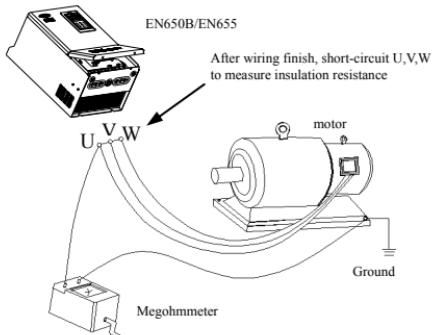

Fig.1-1 Motor insulation check
(1) EN650B/EN655 series inverter belong to voltage type inverter, and it is normal with up temperature, noise and vibration of motor increasing over power frequency run slightly.
(2) It is required to match inverter with variable frequency motor running at low speed with constant torque for long time. When match inverter with general asynchronous motor running at low speed, It should take measures to make motor heat dissipation or monitoring motor temperature in avoid of motor flash.
(3) It is necessary to take measures in advance for the damage caused for the bad lubrication of the reduction box and wheel gear mechanical devices running at low speed for long time.
(4) It is necessary to assure at first that the use speed range of motor bearings and mechanical devices, also the increasing of motor vibration and noise should be considered, when motor run over rated frequency.
(5) It is necessary to select the suitable brake assembly for hoisting device and big inertia load to make sure the normal work when inverter stripping from power grid for the overcurrent or overvoltage failure.
(6) Inverter start and stop control through terminal or other normal command channel, otherwise it may cause inverter damage via connecting inverter input terminal to big current switch just like contactor direct to start and stop inverter frequently.
(7) It is necessary to make sure inverter cut off from operation without output, when inverter and motor connect through switch components just like contactor etc. Otherwise it will cause inverter damage.
(8) When inverter output frequency within some range, It may meet mechanical resonance point of load device, through setting jump frequency to avoid it.
(9) Checking power supply voltage within allowed working range before usage,otherwise, It need to change voltage or custom special voltage inverter.
(10) When inverter usage site altitude over1000 meters, Inverter should derate current to use, output current decrease about 10% of rated current per 1000 meters increase.
(11) Motor should do insulation check before first usage or reusage after lay aside for long time. Checking method show as Fig.1-1 below with 500V voltage type megohm meter , insulation resistance should not smaller than $5\text{ M}\Omega$, Otherwise inverter maybe damaged.